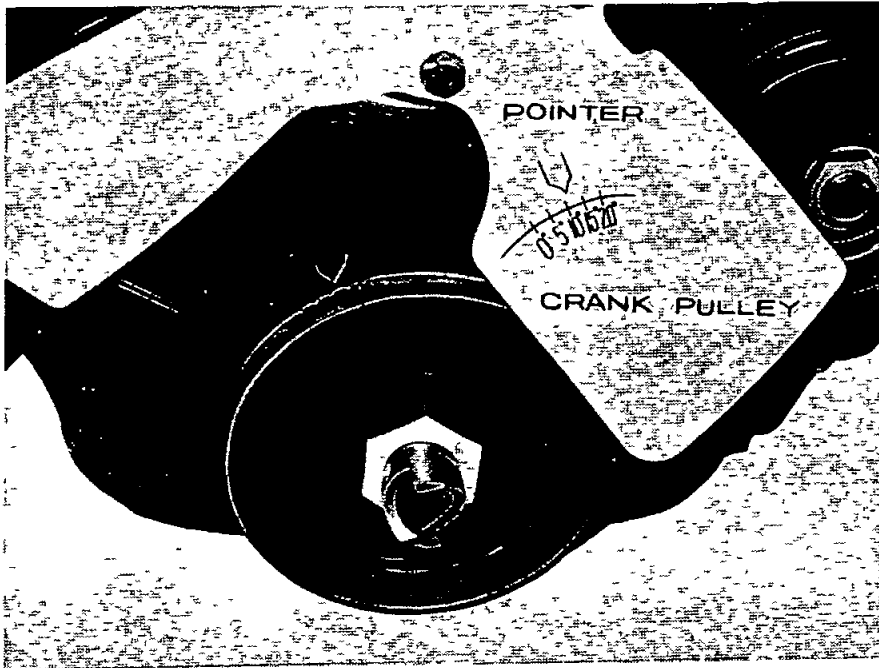

Fig. 1 Checking the Ignition Timing
2. Turn the crankshaft gradually until the top dead center mark (Fig. 1) on the pulley periphery coincides with the mark for 12 deg before top dead center on the timing gear cover as the crankshaft approaches its position somewhat before that corresponding to the end of the compression stroke of the No. 1 piston. Stop the crankshaft in this position. The compression stroke of the No. 1 piston can be determined if the spark of the No. 1 cylinder is removed, the hole plugged with a finger, and the crankshaft turned. With the crankshaft in the previously mentioned position, the No. 1 piston is in its position of 10 deg. before top dead center of compression.